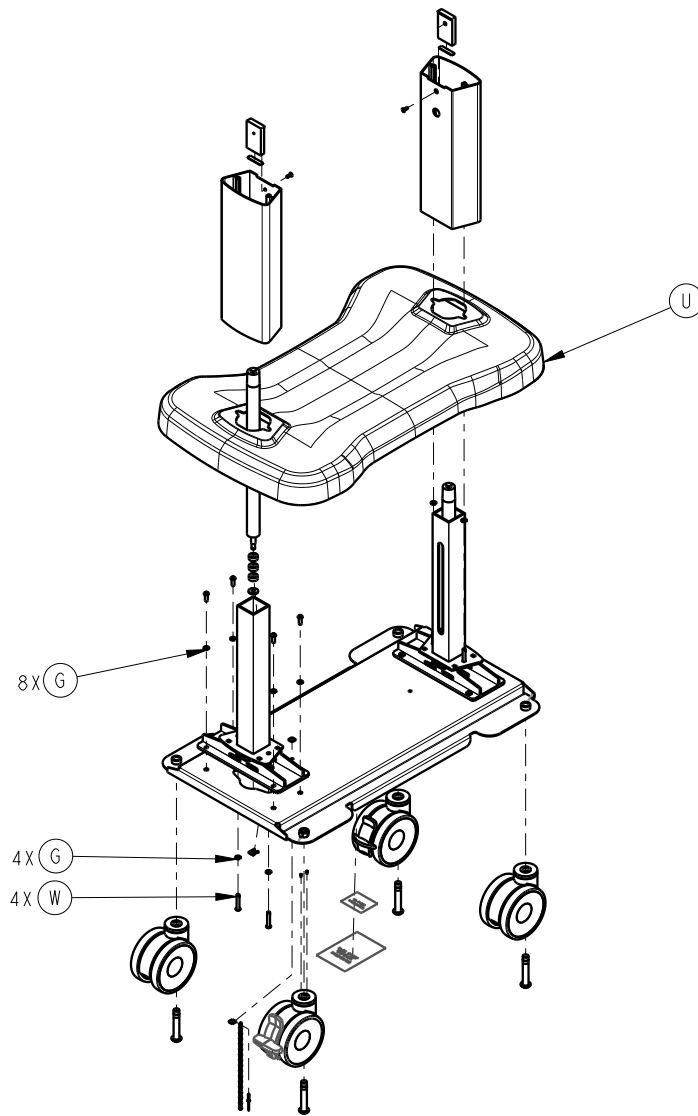

Figure 17 – Base weldment
3. Using a 5/32" hex t-handle, remove the four screws (W) and washers (G) that secure the column to the base weldment (Figure 17). Save the screws and washers.